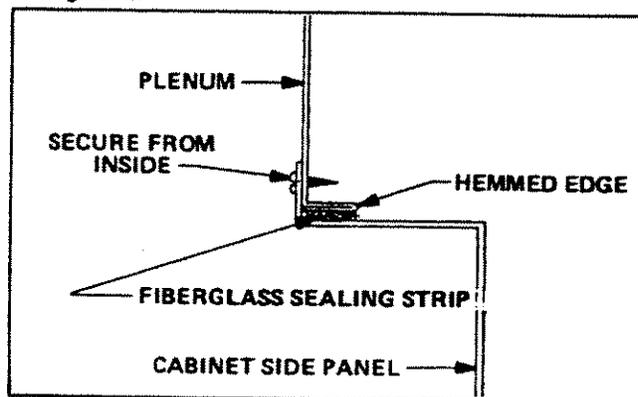

FIGURE 4
- 4 - In closet installations, it may be impossible to install sheet metal screws from the outside. In this case, make plenum with a removable front and install screws from the inside (See figure 4).